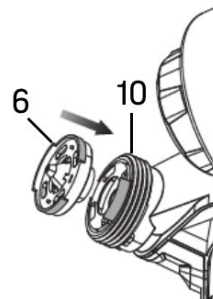

Fig. 22
- a. Note that notch of the nozzle (#6) must align with the skirt on the spray unit housing (#10) and with the bumps in a vertical direction (Fig. 22).